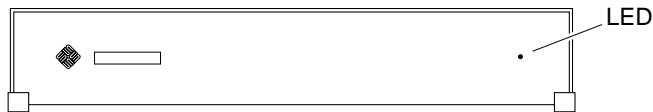

FIGURE 1-2 Front View of the System
- FIGURE 1-2 shows the front view of a SPARCstation 10 system.